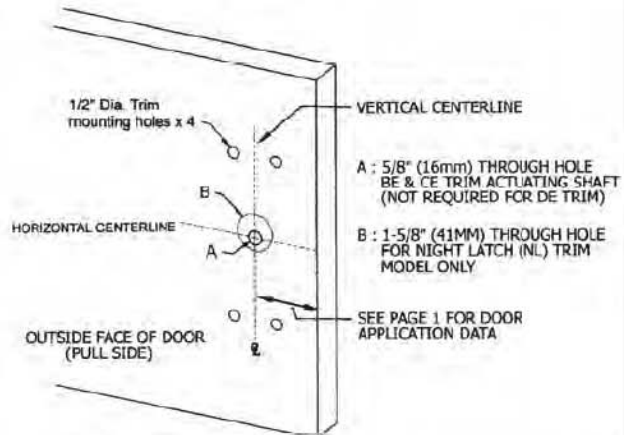

Fig. 7
4. Mark and drill a 5/8" hole for trim actuating shaft, which mates with exit device. (See A on Fig. 7.)
5. Mark and drill a 1-5/8" hole, centered 1/4" (6mm) above horizontal centerline, for storeroom Trim model only. (See B on Fig. 7.) For further details, see the storeroom Trim template.